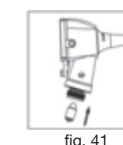

fig. 41
3. Pull the old bulb downward to remove; replace with new 3.0VDC 80Ma LED bulb (fig. 41) above.